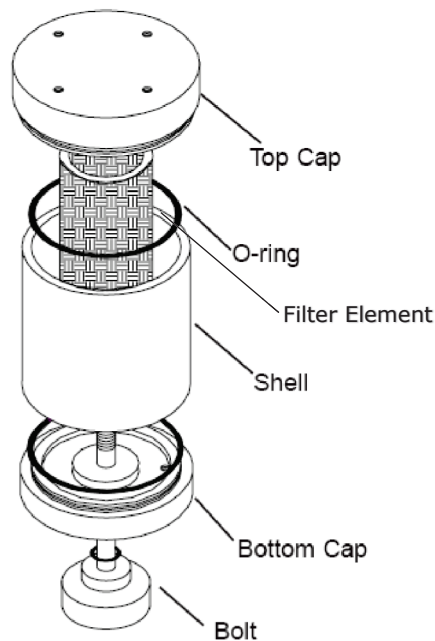

Figure 7 - Filter Element Replacement
2. Insert eraser end of pencil into one sample port until it rests on tube header face (Refer to figure 7).